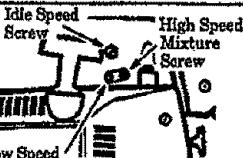

Figure 41
- d. Locate the three (3) carburetor adjusting screw openings to the right of the air filter cover. Figure 41.
- e. Start the engine and allow engine to idle three (3) minutes to warm up. The engine must be at operating temperature for proper adjustments to be made.